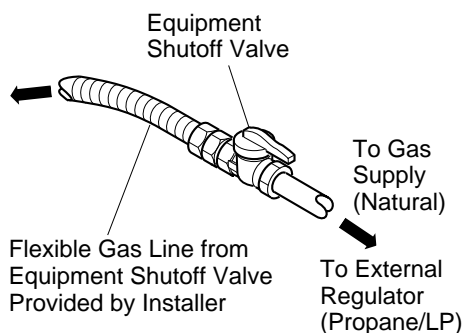

Figure 32 - Attaching Flexible Gas Lines Together
3. Attach a 45° flare union gas connector to flexible gas line from gas supply (see Figure 32). Connect flare union to flexible gas line attached to gas regulator of fireplace (see Figure 32).